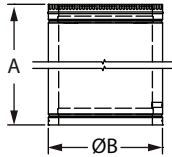

**Figure 1**
- Determine the minimum chimney height above the roof line. Building codes require a minimum of 3' above the roof penetration and at least 2' higher than any portion of a building within 10'. See figure 1. The termination cap is installed above that point.